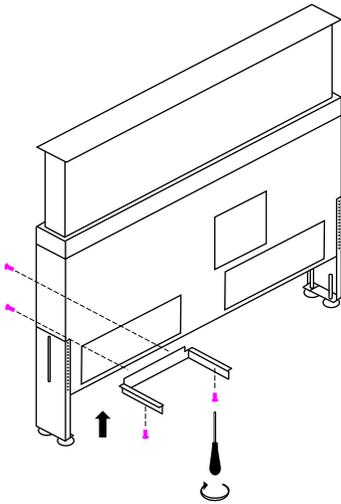

Fig 12
2. Secure the plenum support with 4 screws (Fig 12).